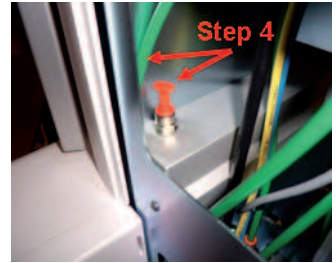

Figure 24 - Fit 6 mm Plug
4. Remove the 6 mm tubing from the 6 mm push-fit fitting and plug it with a 6 mm plug (Figure 24).